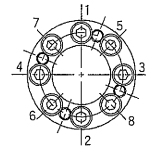

Fig. 5 Tightening sequence for bolts
- Set a torque wrench to approximately 1/4 of the torque MA (refer to the table given below for torque MA) and tighten each of the tightening bolts evenly in the sequence shown in figure 5.